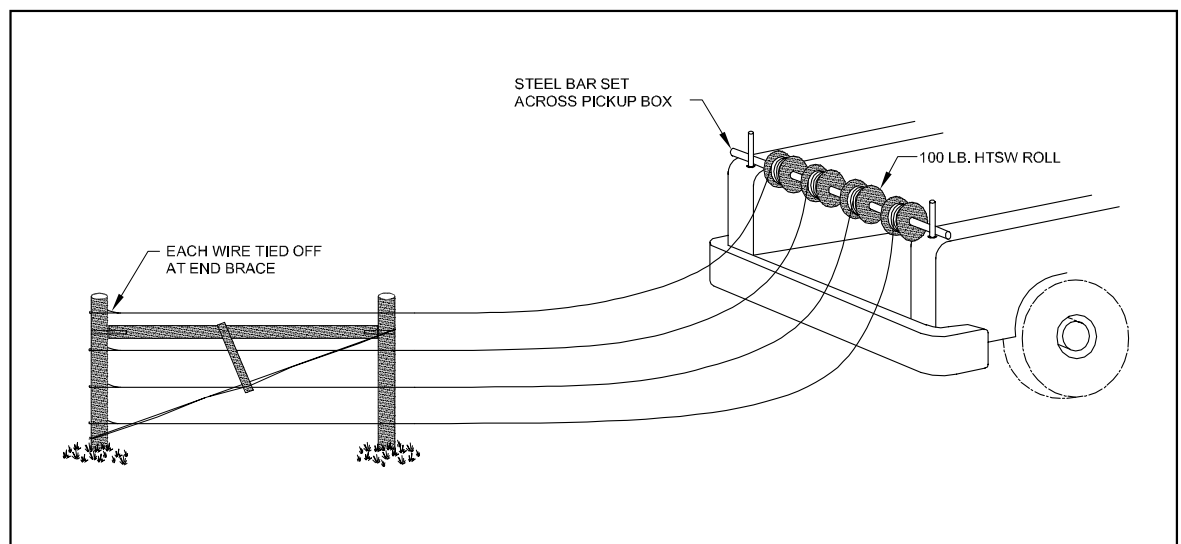
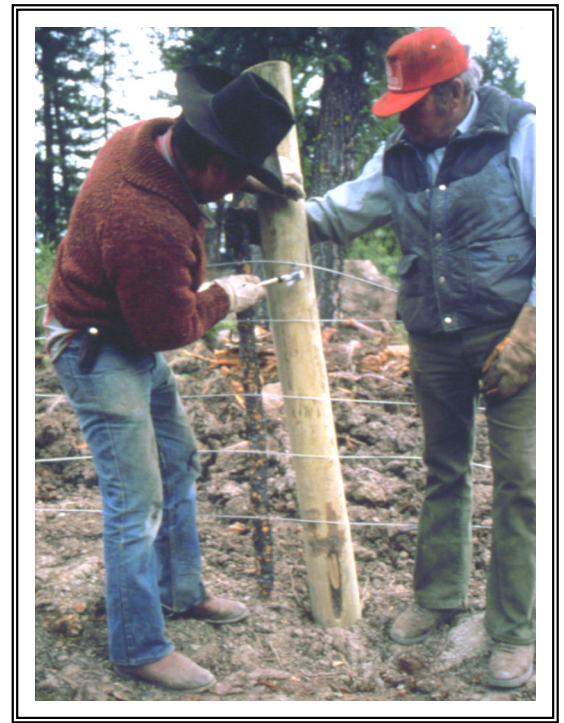

Figure 2
Figure 3
- mount one wire roll per strand on an ATV, tractor or pickup truck (Figure 2, below); use a “stapling stick” to staple each wire in the proper order and height on line posts (Figure 3, next page); hand pull tight and tie off at far end post.